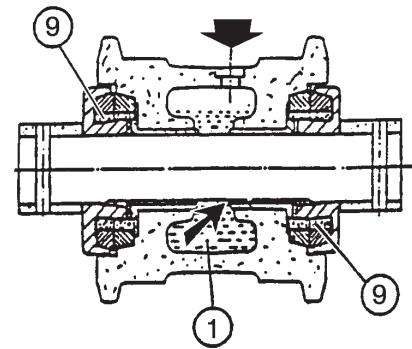

Fig. 3-75 Track roller - air/oil
3. Hold the roller in such a way so the oil groove is at the bottom and the oil fill hole is at the top. Now apply air pressure into the roller as in step 7 so the oil is pressed into the seal retaining spaces (9). Fig. 3-75.